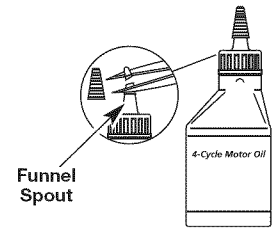

Fig. 6
The unit is supplied with one 3.04 fluid oz. (90 ml) bottle of SAE 30 SF, SG, SH oil (Fig. 6).
1. Unscrew the top of the bottle of oil and remove the paper seal covering the opening. Replace the top. Next, cut the tip off the funnel spout (Fig. 6).